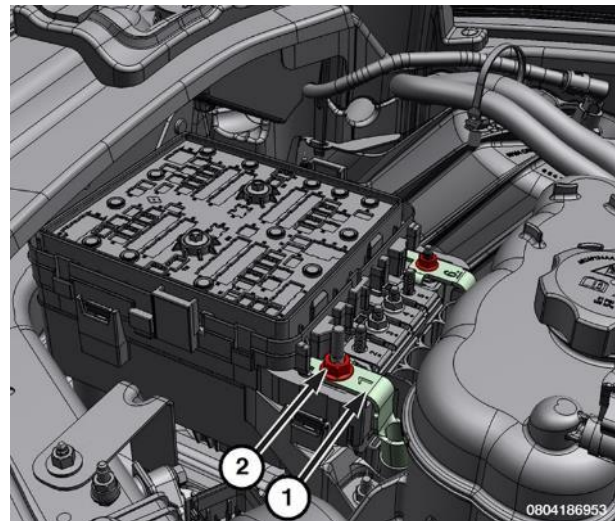

Figure 16 – 12-Volt Cable at PDC
- o) Remove the 12-volt cable (1) from the front lug (2) of the fuse array on the front PDC. Immediately cover the exposed end with an insulating cap from the Covers, HEV Battery Terminal 2035100082. If a cover is not available, a finger from an old insulated safety glove can be cut out and used to cover the terminal. This will remove the power source that supplies the contactors inside the high voltage battery but not completely power down the 12-volt system. If there is a 12-volt cable connected to rear lug (number 6), remove and cover it as well (Figure 16).